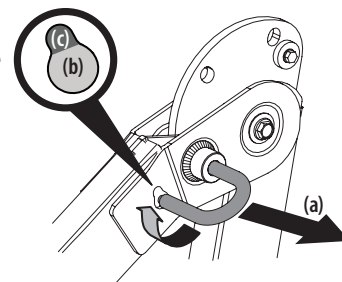

Figure 4
- Pull slightly up on the ROPS to relieve any tension on the locking pin (a) and rotate the locking pin (a) from the LOCKED (b) position into the ADJUSTMENT (c) position. Repeat the procedure for the locking pin on the opposite side. See Figure 4.